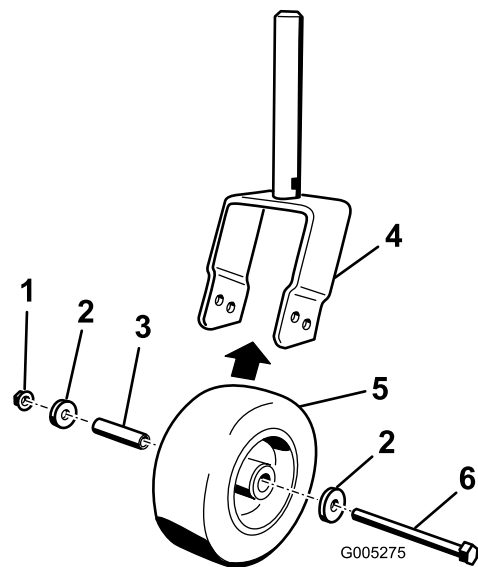

Figure 18
1. Remove the locknut from the bolt holding the castor wheel assembly and washers between the castor fork (Figure 18). Grasp the castor wheel and slide the bolt out of the fork. Remove the tire spanner from inside the wheel assembly.